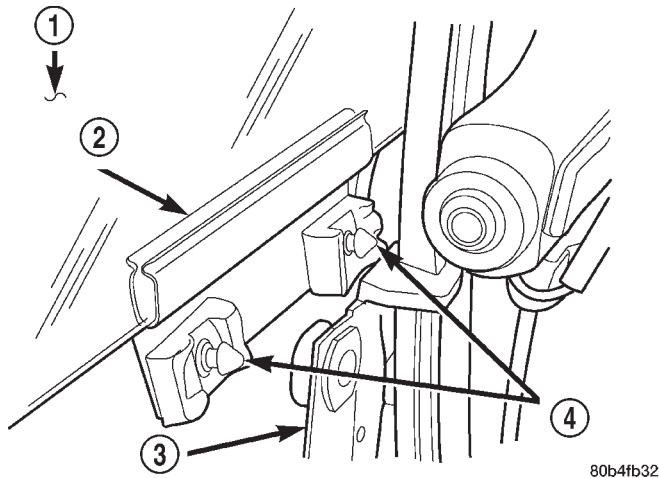

Fig. 4 Front Door Glass Retainer
- (7) Carefully push bottom of glass panel outward to disengage glass retainer studs from lift plate (Fig. 4).
- (8) Lift glass upward and out of door.